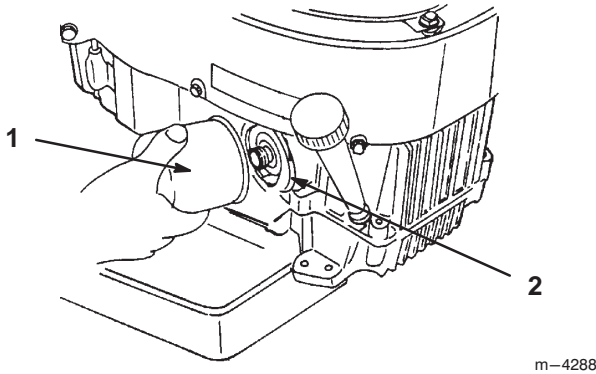

Figure 17
2. Remove the old filter (Fig. 17).
3. Apply a thin coat of new oil to the rubber gasket on the replacement filter (Fig. 17).
4. Install the replacement oil filter to the adapter. Turn the oil filter clockwise until the rubber gasket contacts the filter adapter, then tighten the filter an additional 3/4 turn (Fig. 17).